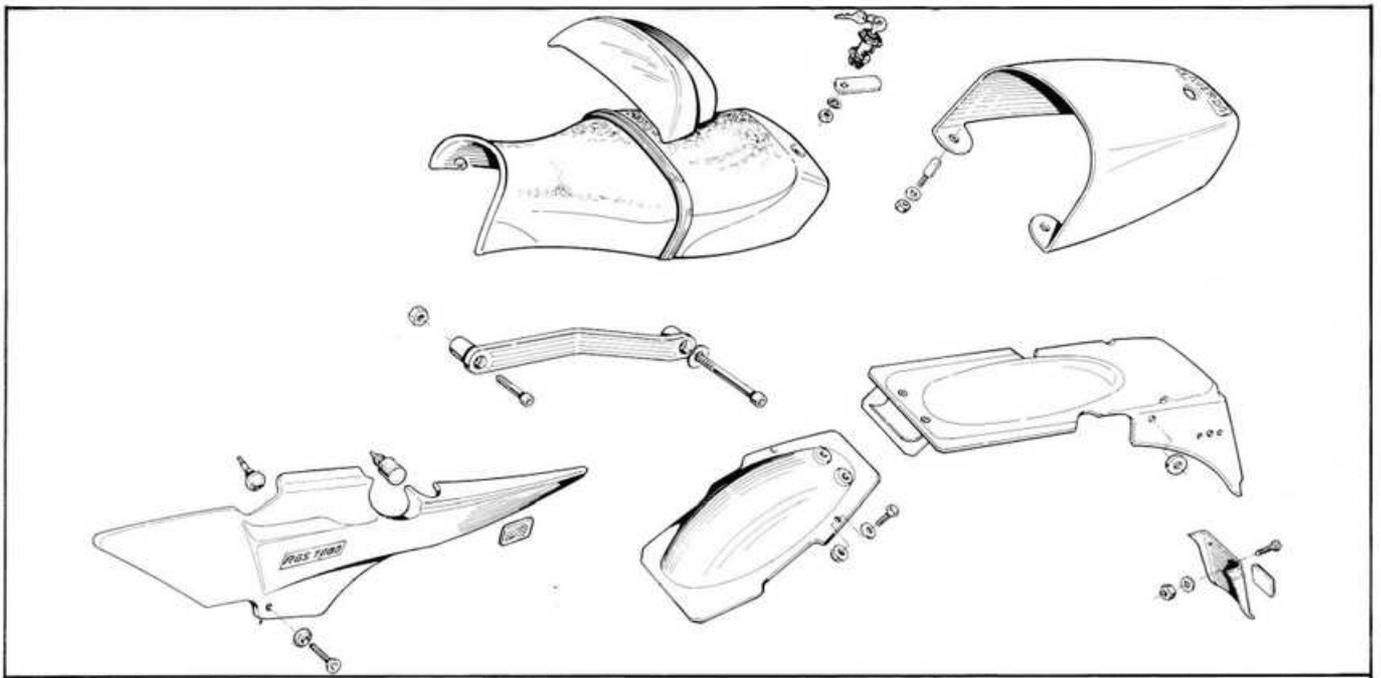

Fig. 204
**Fianchetti (Fig. 204)**
**Parafango posteriore (Fig. 204)**
**Side panels (Fig. 204)**
**Rear mudguard (Fig. 204)**